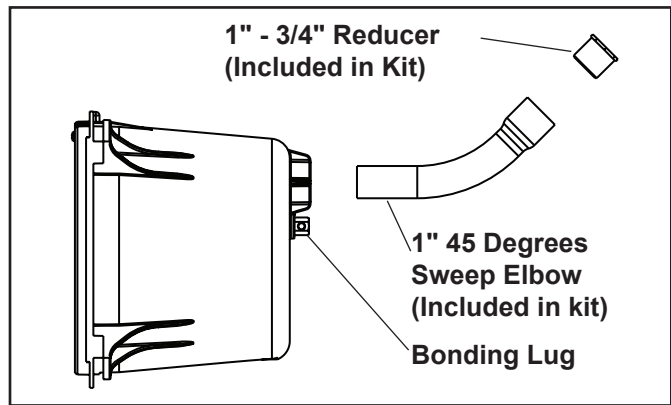

Figure 2. Plastic Niche Installation
- Attach conduit to the back of niche using the proper PVC/CPVC primer and glue. See Figure 2. A 1" PVC 45 degree sweep elbow is included with the niche to direct the conduit pipe upwards toward the junction box. A 3/4" reducer is also included with the niche to permit the use of 3/4" conduit pipe. Make sure to follow the primer and glue manufacturer's instructions for the preparation procedures and curing times.